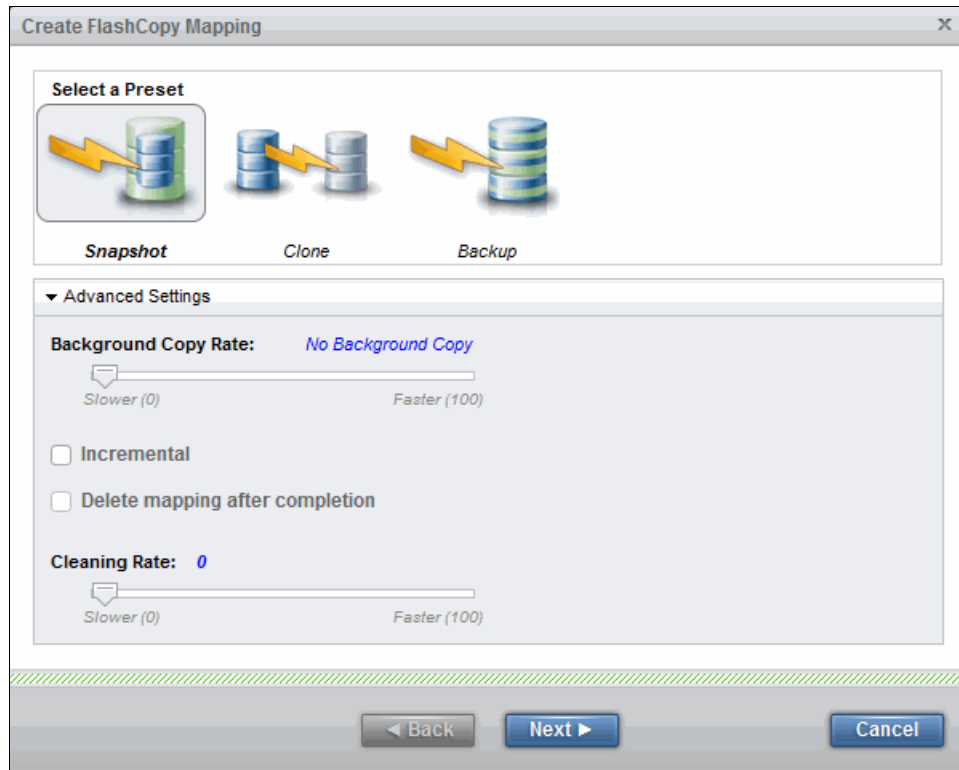

Figure 10-27 Select a preset and make your adjustments
5. Select the preset and (if necessary) adjust the settings by using the Advanced Settings section, as shown in Figure 10-27. (For more information about the Advanced Settings, see “Creating target volumes” on page 476.) Confirm that the settings meet your requirements and then click **Next**.